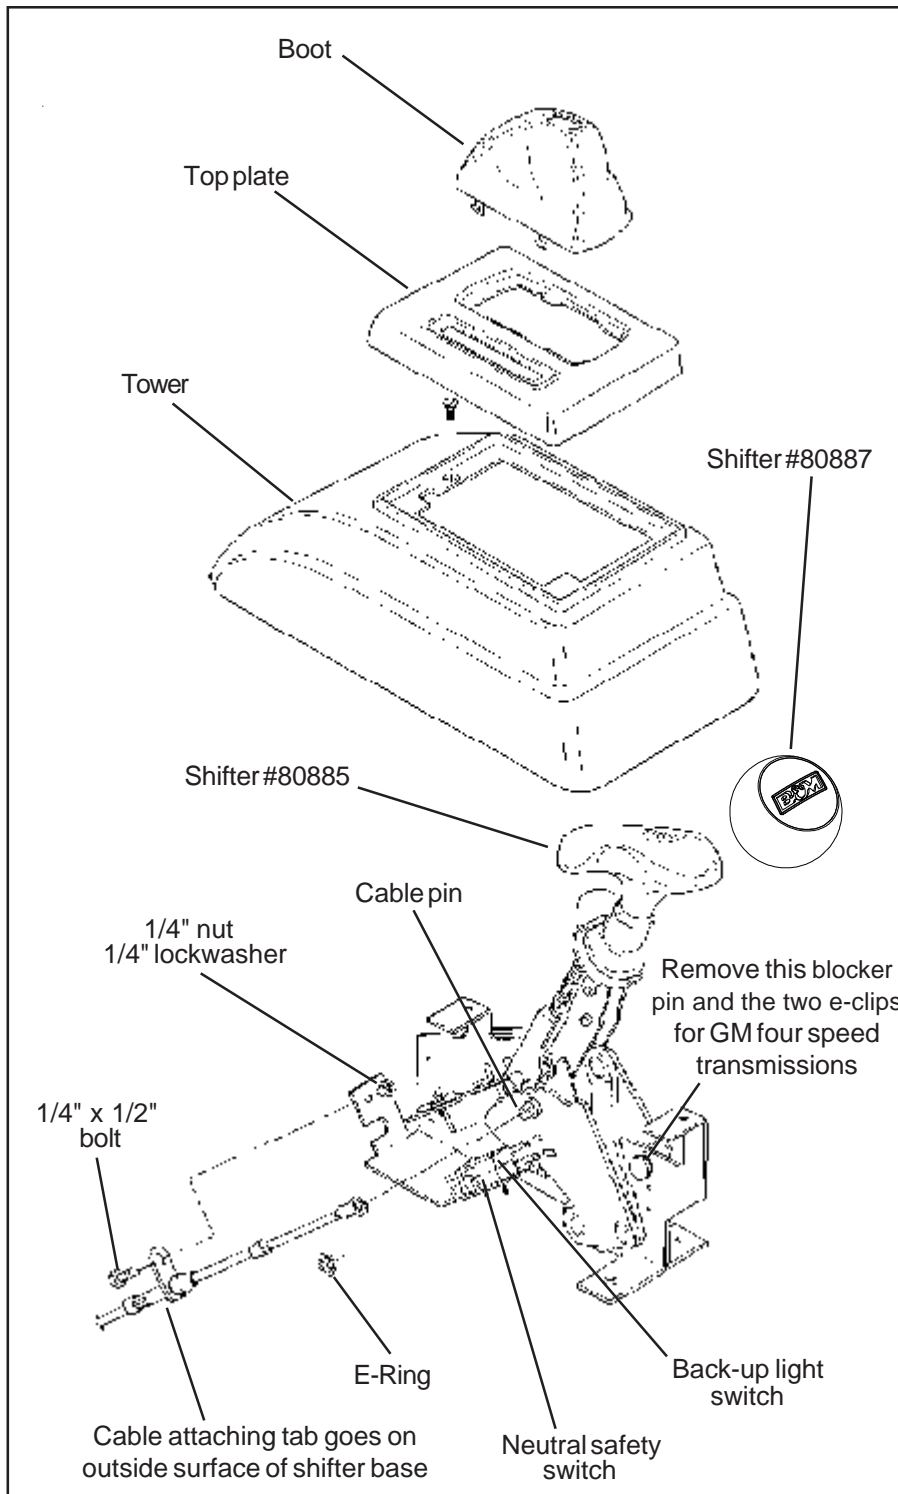

Figure 1
To use this shifter with a GM four speed automatic transmission (TH-700R4, TH-200 4R, 4L60, 4L80E or 4L85E) you will need to remove the three speed blocker bolt and nut. (See **figures 1 and 3.**) For the Ford AOD four speed transmission do **not** remove this bolt.
**NOTE:** If you are installing this shifter with a GM TH-700R4, TH-200 4R, 4L60, 4L80E or a 4L85E four speed automatic transmission you must remove the bolt and nut indicated in **figures 1 and 3.** Removing this bolt gives the shifter four forward positions rather than three. For Ford AOD four speed transmissions do **not** remove this bolt and nut, since this transmission has only three forward positions. Also do **not** remove the bolt and nut for three speed automatic transmissions.
**STEP 5.** Assemble Neutral Safety and Reverse light switches to bracket using two #4-40 x 1" screws and nuts, as shown in **figure 1.** **Beware,** Over tightening the switch attachment screws will crack the switch housings. Install Switch assembly on shifter. To adjust switches loosen screws and slide switches in or out as required, then retighten screws.
**STEP 6.** Install cable on shifter as shown in **figure 1.** The cable attachment tab should be bolted to the outside surface of the shifter base using 1/4" x 1/2" hex bolt, lock washer and nut. Install the E-Ring that secures the cable to the cable pin.
4, C-5 and C-6 transmissions, it will be necessary to hook up the Neutral safety/Backup light switches on the **B&M Hammer**. Locate and identify the Neutral safety (the engine will not crank unless these wires are connected together), and Reverse light wires. Disconnect Battery ground cable before beginning to wire the Neutral safety and Reverse light switches. Reroute the wires to the **B&M Hammer**. Strip 1/4" insulation off wires and install supplied slip-on terminals. Crimp terminals onto wires using a crimping tool or pliers. Connect the Neutral safety wires to the **LOWER** switch and the Reverse light wires to the **UPPER** switch, See **figure 1**. Tape terminal connections to prevent shorts. Reconnect battery ground cable, disconnect coil wire and set the parking brake. Check switch operation by attempting to start motor in each shifter position. **The starter must crank only when shifter is in the Park or Neutral position.** Check Backup light operation when the shifter is shifted to the Reverse position. Adjust switches if required. Reconnect coil wire. Go to **Step 27**.
'66-'68: The Neutral safety switch will continue to function normally. It will not be necessary to hook up the Neutral safety switch wires on the shifter. Disconnect the battery ground cable before wiring the Backup light switch. Locate the original Backup Light switch on the steering column or console shifter. Run these wires to the top switch on the **B&M Hammer**, See **figure 1**. Reconnect ground wire and check light for proper operation. Adjust switches on the shifter if required.